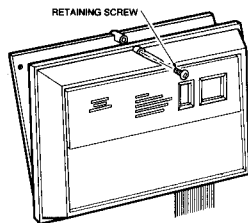

Figure 12. Removing SS-32T Cover
1. Remove the screw from the front cover of the case (if installed), then lift off the cover by prying the case apart at the top edge (see Figure 12).